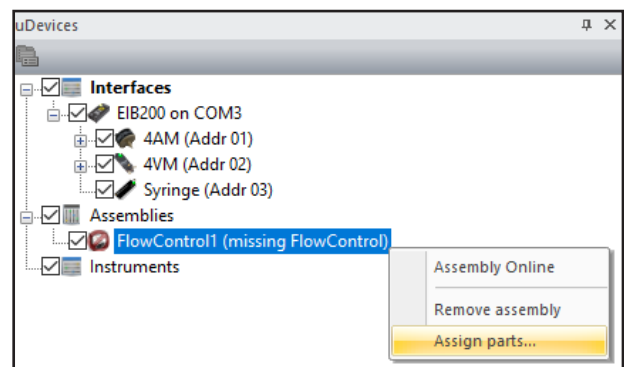

Fig. 7
- 7) Right-click on the flow controller and select **Assign parts...** (Fig. 7).